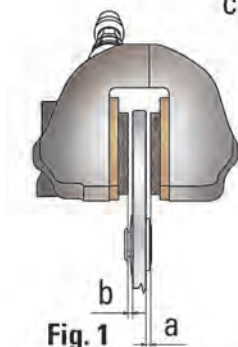

Fig. 1
- The caliper must be mounted in a symmetrical position with respect to the disc center line: Misalignment must be 0,15 mm MAX (see fig. 1).